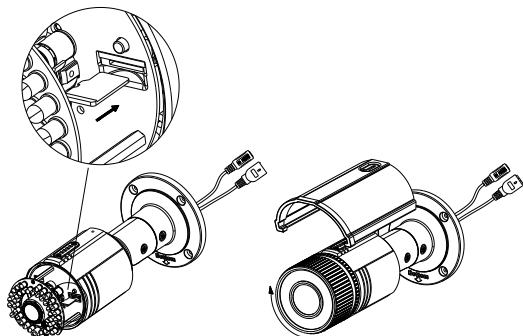

Figure 2-2 Install the SD Card
5. Rotate the front cover clockwise back to the camera and install the sun shield according to the arrow direction as shown in Figure 2-2(right).